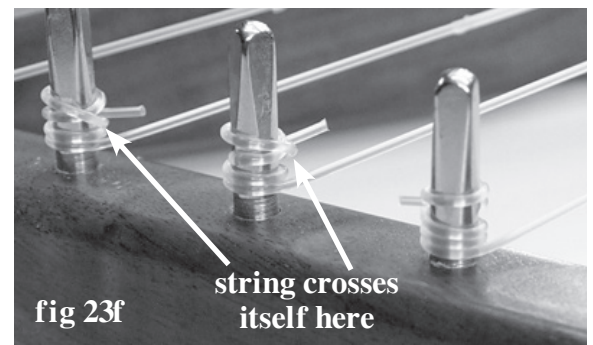

fig 23f
It is best to have the string pull from a low position on the pin, as opposed to pulling near the top of the pin (see Fig 23f). This reduces the twisting force on the pins and the top cross piece of the frame.
**HINT: Nylon strings are quite slippery, so we like to secure the strings to the tuning pins by crossing the string over itself once while turning the pin. Look closely at fig 23f to see how that is done. It will help the strings stabilize more quickly on your Lyre.**